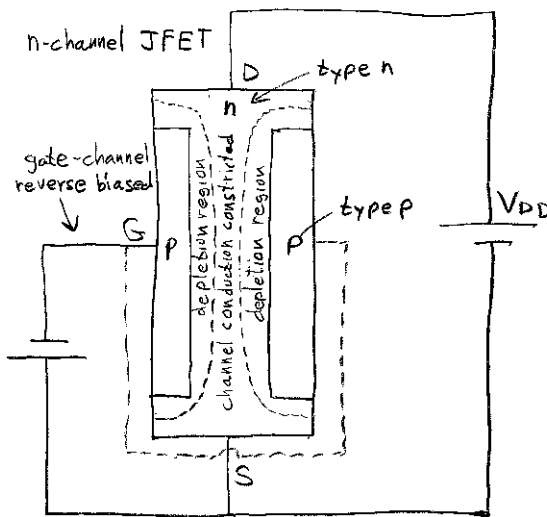

Figure 1: JFET construction and conduction channel controlled by depletion zone
A junction field-effect transistor (JFET) consists of a semiconducting channel whose conductance is controlled by an electric field. The terminals at either end of the channel are called source (S) and drain (D). The control electrode that applies the electric field is called the gate (G) and is made of the opposite type of semiconductor material than the channel. Thus, there is a PN junction between the gate and the channel. This PN junction is always reverse biased in normal operation. Figure 1 shows the basic structure.